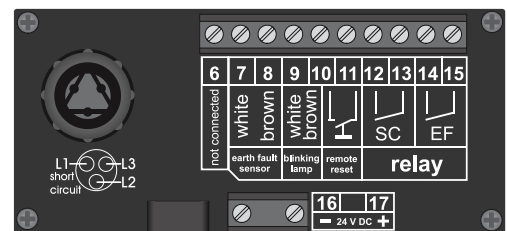

figure 2 - Connectors two relay version
- Optional two relays (figure 2):**